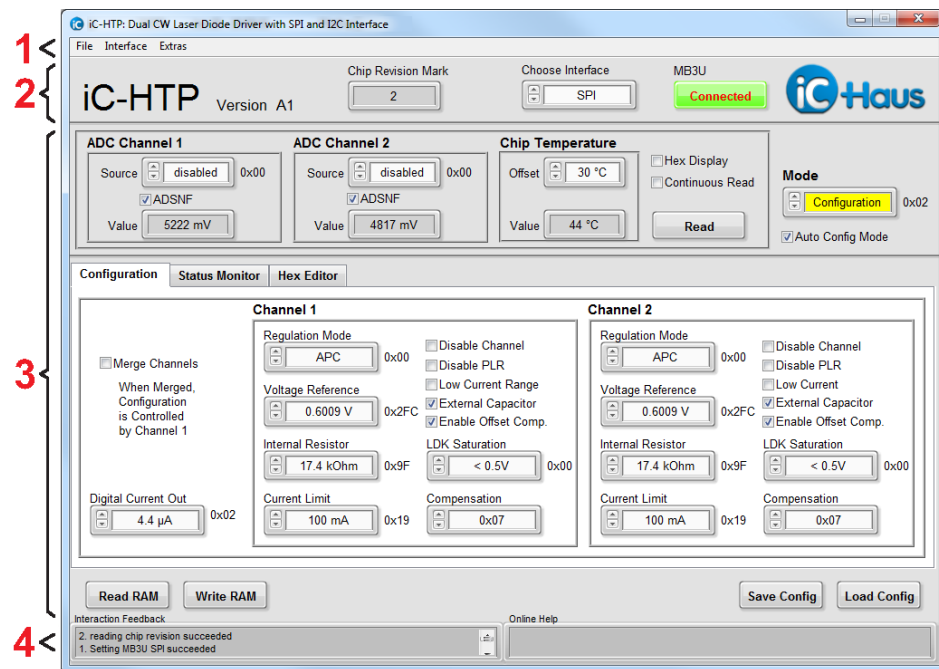

Figure 3: iC-HTP evaluation software
3. After installation the executable HTP1SO_gui_xx.exe will be available in the selected working directory. Figure 3 shows a screenshot of the evaluation software.